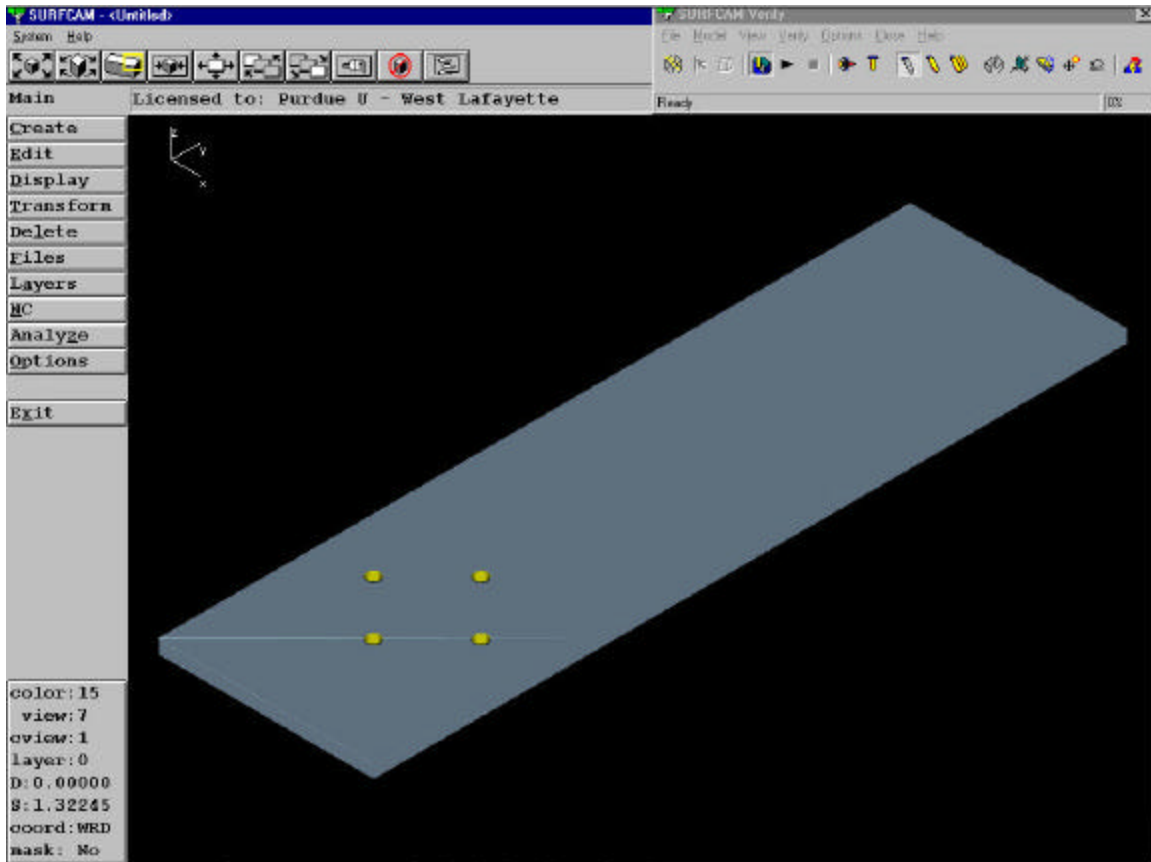

Figure 8: Simulated tool paths in a material stock
- 6.) Press the Zoom all key again, so the screen shows the full outline of the simulated material. At this time, the tool paths can be simulated. Press the  (simulation button) on the toolbar. The material specified on the screen will appear to become solid, and the tool paths can now be simulated by pressing the play button on the toolbar. The actual drilling of the holes will be quick. The final result of the simulation will appear like figure 8.